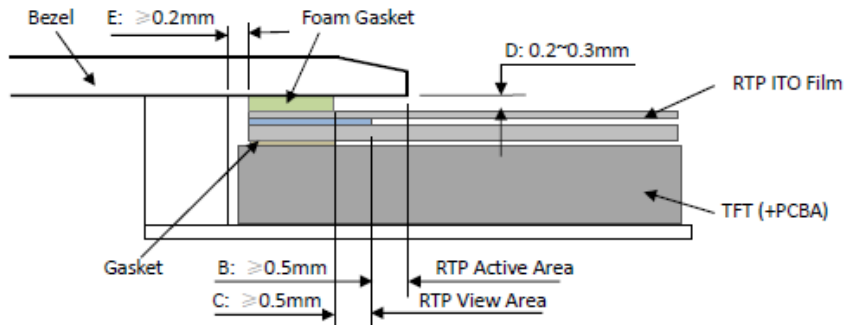

Figure 4
- It should bezel touching the RTP Active Area (A.A.) to prevent abnormal touch.It should left gab D=0.2-0.3mm in between. (Figure 4)
- Outer bezel design should take care about the area outside the A.A. Those areas contain circuit wires which is having different thickness. Touching those areas could de-form the ITO film. As a result bezel the ITO film be damaged and shorten its lifetime. It is suggested to protect those areas with gasket (between the bezel and RTP).The suggested figures are B≥0.50mm; C≥0.50mm. (Figure 4)
- The bezel side wall should keep space E= 0.2 ~ 0.3mm from the RTP. (Figure 4)
- 为避免面框直接压在动作区(A.A.)上造成误动作, 面框与电阻触摸屏(RTP)之间应留有一定的空隙 D=0.2~0.3mm 之间. (附图 4)
- 设计面框时, 要注意用面框保护触摸屏四周的非保证操作区域, 因为布线区域在此处形成一台阶, 在此区域附近操作时 ITO Film 变形较大, 容易导致 ITO 损坏而降低寿命. 为保护 RTP 和避免误操作, 在 RTP 与面框之间垫缓冲物 (Gasket), 我们建议设计面框应覆盖动作区的边缘, 面框边缘到 V.A. 区的距离 B ≥ 0.50mm; 垫圈内边缘到 V.A. 区的距离 C ≥ 0.50mm. (附图 4)
- 在设计面框与 RTP 组装时, 应考虑到面框内侧与 RTP 外侧的间距 E ≥ 0.2mm. (附图 4)